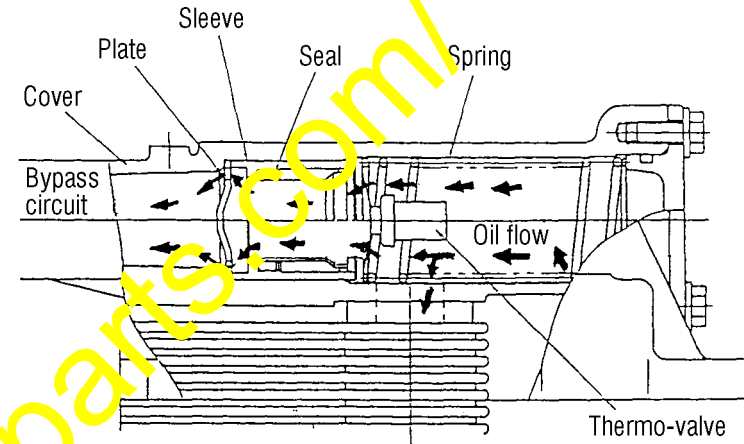

Fig. 1 Current thermo-valve
- 1) The oil cooler thermo-valve for the SA(A)6D140 series engines is positioned on the upstream side of the oil cooler as shown in Fig. 1.